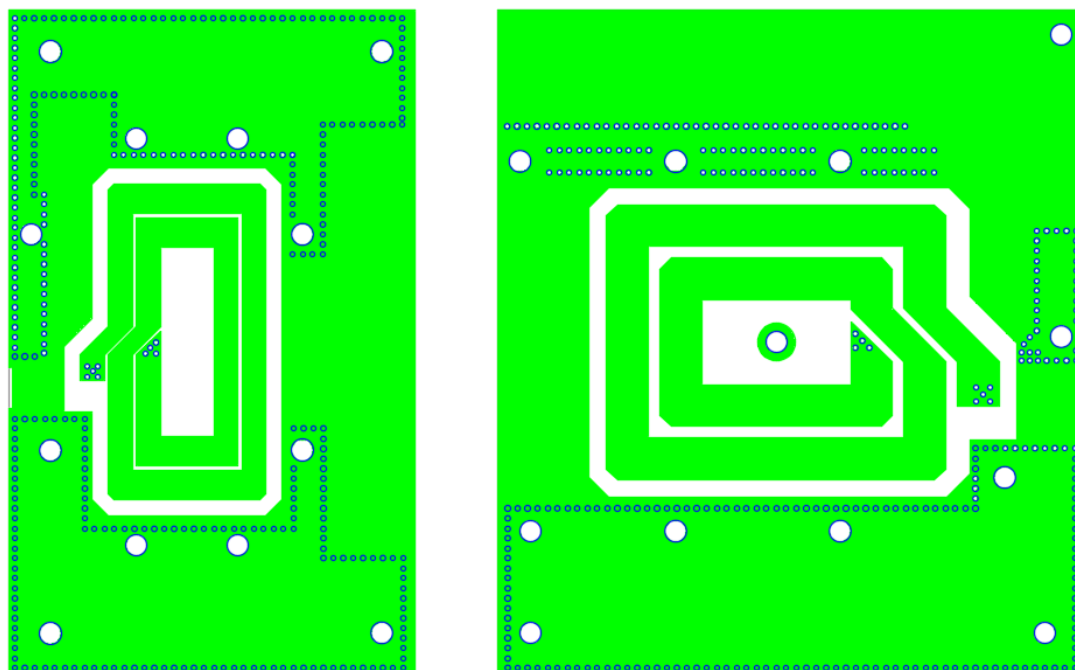

Figure 5 PCB layout bottom layer
- Figure 5 PCB layout.....bottom layer 7